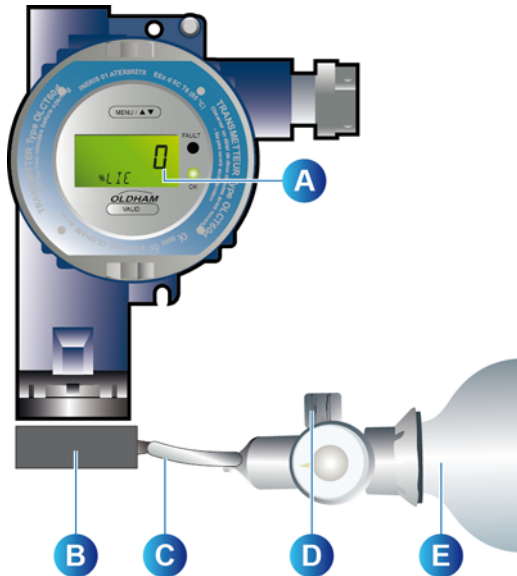

Figure 27: Zeroing.
2. Place the calibration shroud onto the detector head (Figure 27, rep. B).